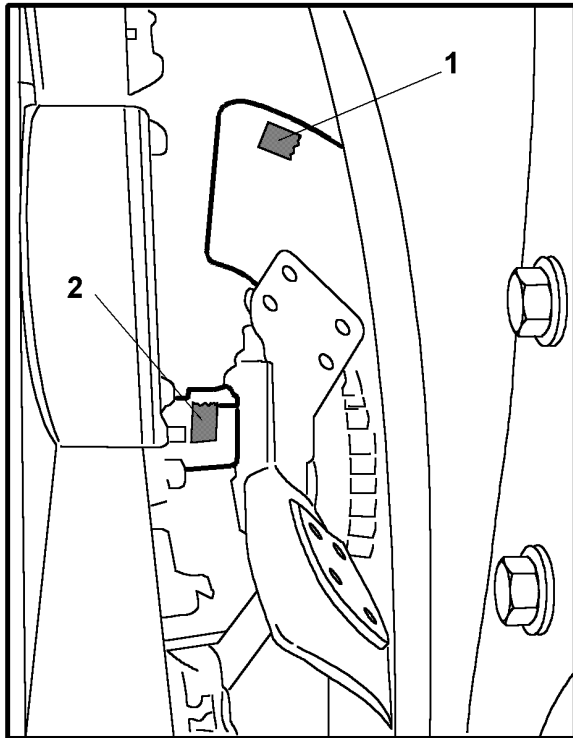

Figure 1 Placement of Reflective Tape
10. Apply a strip of reflective tape to one (1) blade of the fan and another strip to the fan drive shaft so that fan RPM and fan drive shaft RPM can be measured with the digital photo-tachometer (Figure 1).